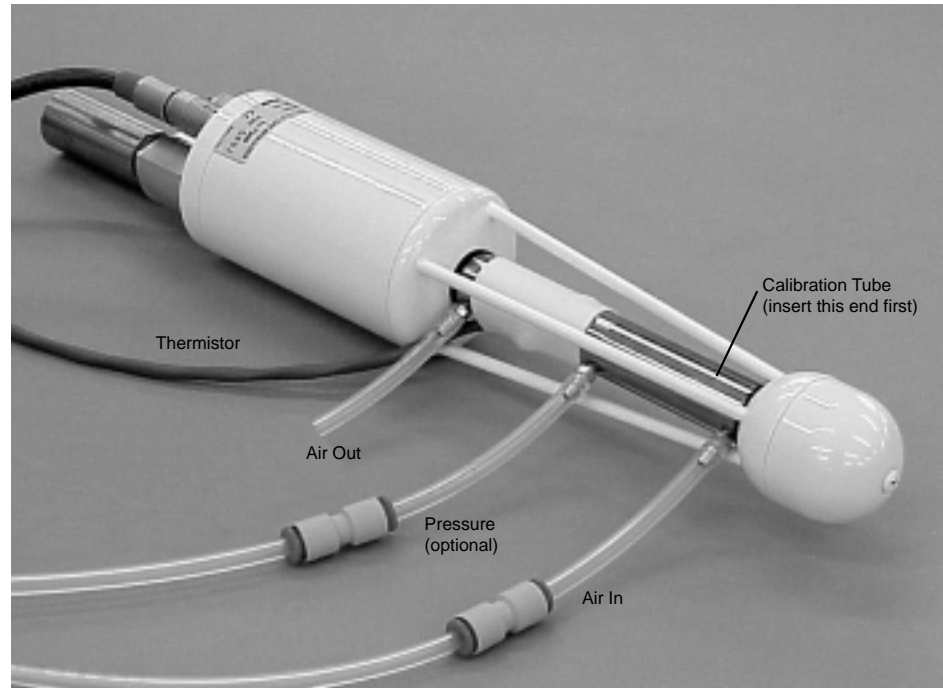

Figure 4-1. Flow calibration gas at the Air In port shown.
2. Place the calibration tube into the sensor head as shown in Figure 4-1 and connect the temperature sensor cable to the LI-7500 control box.
4. Flow CO2-free air through the calibration fixture at a rate of about 0.5 to 1.0 LPM. Attach the zero gas to the calibration fixture at one of the ports shown in Figure 4-1.